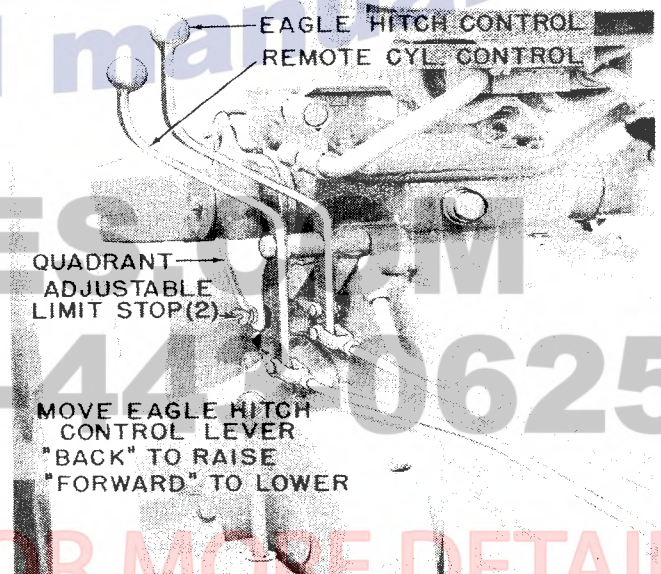

Fig. 73. Hydraulic Control Levers
2. **Control Lever Quadrant Stops** — Two adjustable stops are provided on the quadrant plate, see Fig. 73. The lower stop regulates the desired "lift" of the mounted implement. Never carry mounted implements in transport any higher than necessary for proper ground clearance.